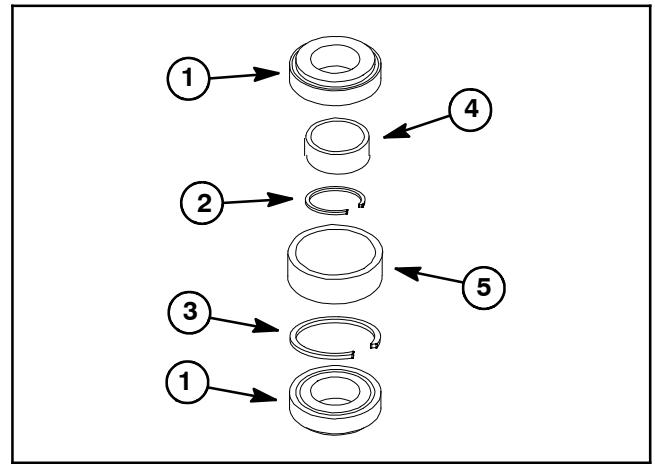

Figure 17
- Allow the bearing cones, inner bearing spacer and spacer ring to drop out of the spindle housing (Fig. 17).
NOTE: A replacement spindle bearing set contains two (2) bearings, a spacer ring and a large snap ring (items 1, 2 and 3 in Fig. 17). These parts cannot be purchased separately. Also, do not mix bearing set components from one deck spindle to another.
NOTE: A replacement bearing spacer set includes the inner spacer and outer spacer (items 4 and 5 in Fig. 17). Do not mix bearing spacers from one deck spindle to another.
IMPORTANT: If bearings are being replaced, make sure to use the spacer ring that is included with new bearing set (Fig. 17).